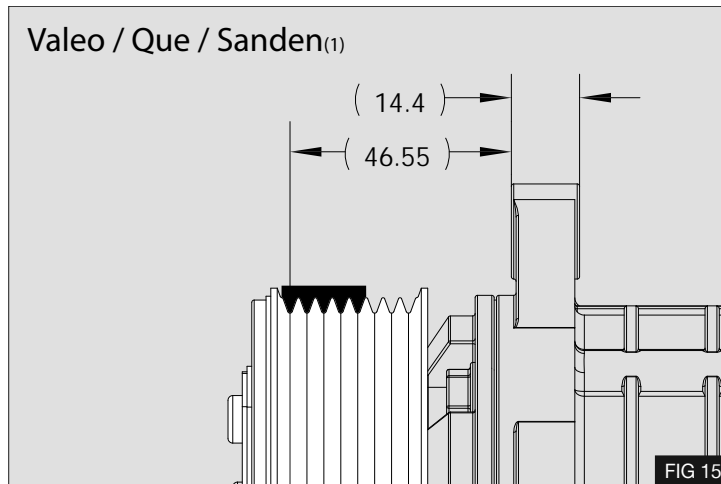

FIG 15
2. Place the belt in the correct groove of the compressor - Fig 15
3. Valeo / QUE / Sanden (1) compressors - Belt is installed in the grooves at the front of the compressor pulley - Fig 15